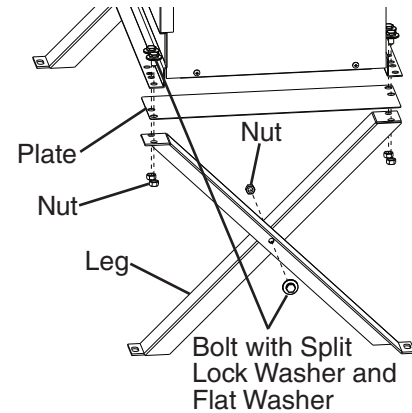

Fig. 14
- 1) Assemble 2 sets of legs using the legs, bolts, and nuts provided. See Fig. 14.